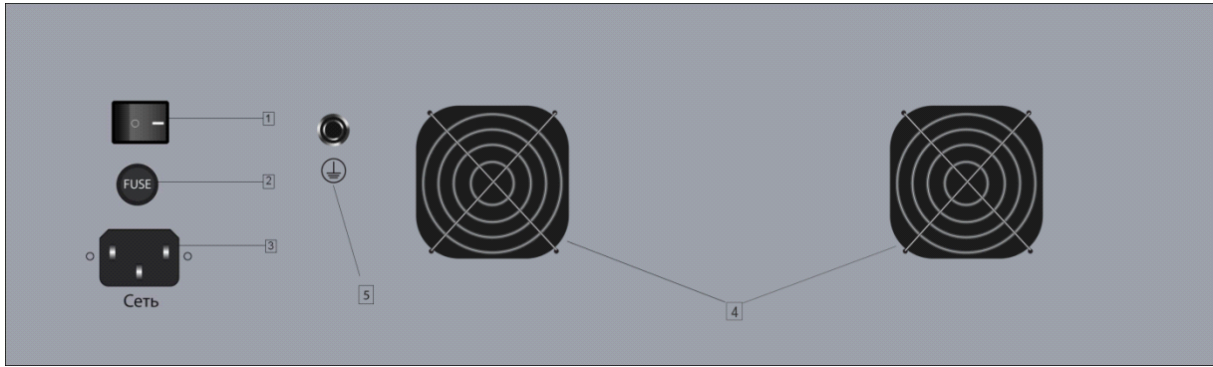

Fig. 2 Rear panel of the calibrator
- ① Connect the calibrator to the mains using the supplied cable.
- ② Turn on the calibrator using the switch 1 on the rear panel (see Figure 2).